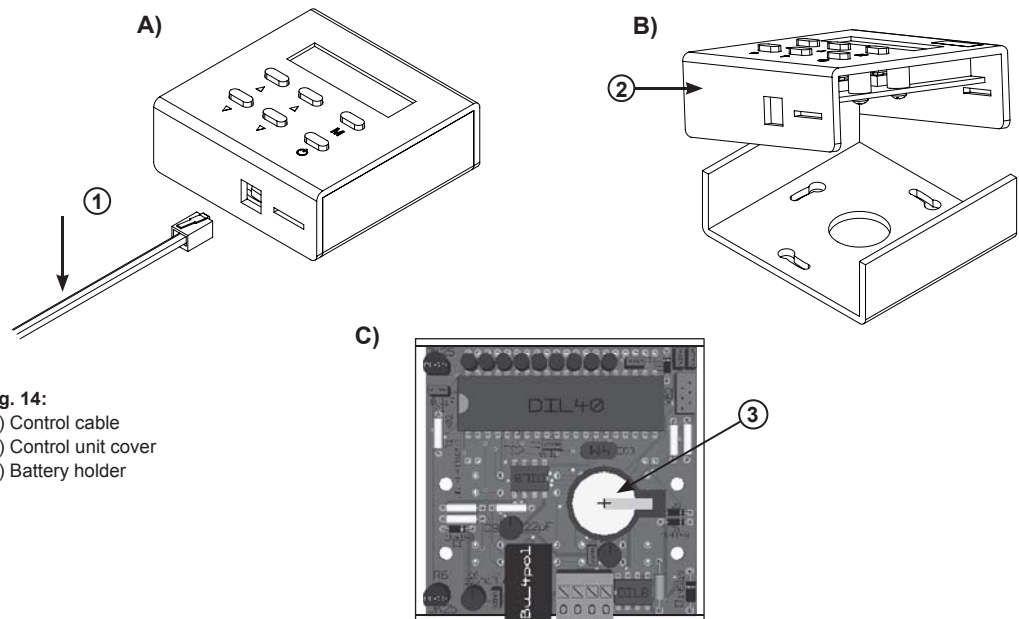

Fig. 14:
- Remove the control cable (1) from the control unit.
- Open the control unit by removing the cover (2).
- The holder (3) for the battery is on the board. Remove the battery and replace it with a new one as shown in Fig. 14 C.